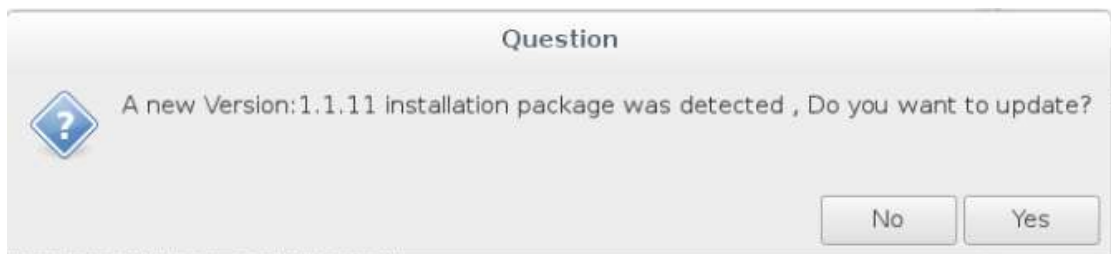

Figure 6-7
- Step 2 The system displays the software update prompt, as shown in Figure 6-7.